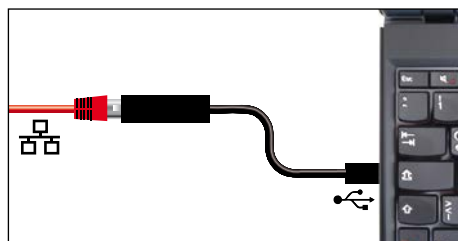

Fig. 7 Converter USB to Ethernet
- ▶ USB to Ethernet converter (Fig. 7). Makes it possible to connect the appliance's network interface (see page 12) to the USB port of a computer / laptop.